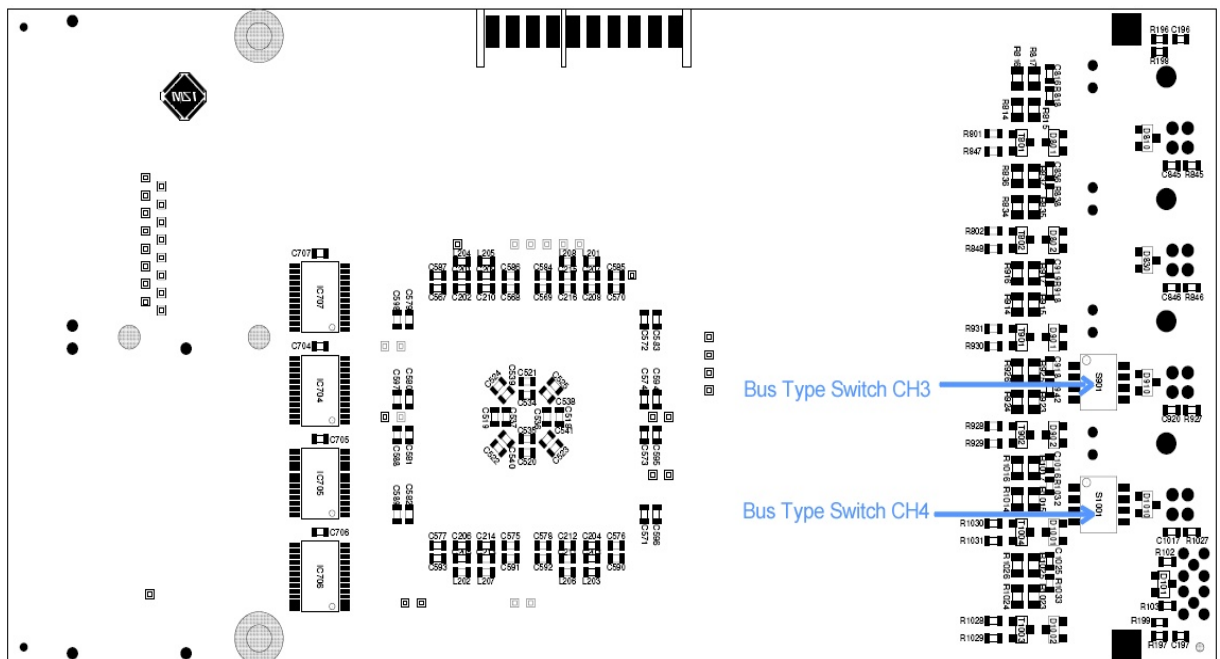

Figure 5: *FlexCard PMC/PCI* bottom view
One of the device's key features is the flexible support of FlexRay and CAN bus systems. This chapter describes how the *FlexCard PMC/PCI* can be modified to work with CAN bus systems beside FlexRay. In Figure 5, the involved parts of the *FlexCard PMC/PCI* board are shown.
- **Physical layer selection:** The correct physical layer has to be selected for the specific channel connector. This is done via the DIP-switches S901 and S1001 (see Figure 5).